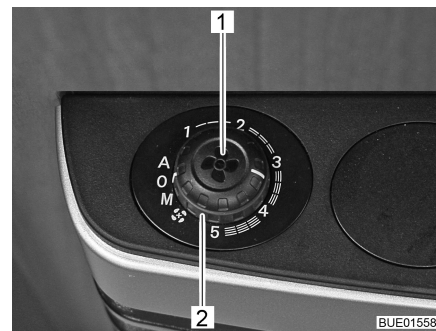

Fig. 54 Knob and rotary switch for fan control
- Set the rotary switch (Fig. 54,2) to the required operating mode.
- Turn the rotary switch (Fig. 54,2) to "0".